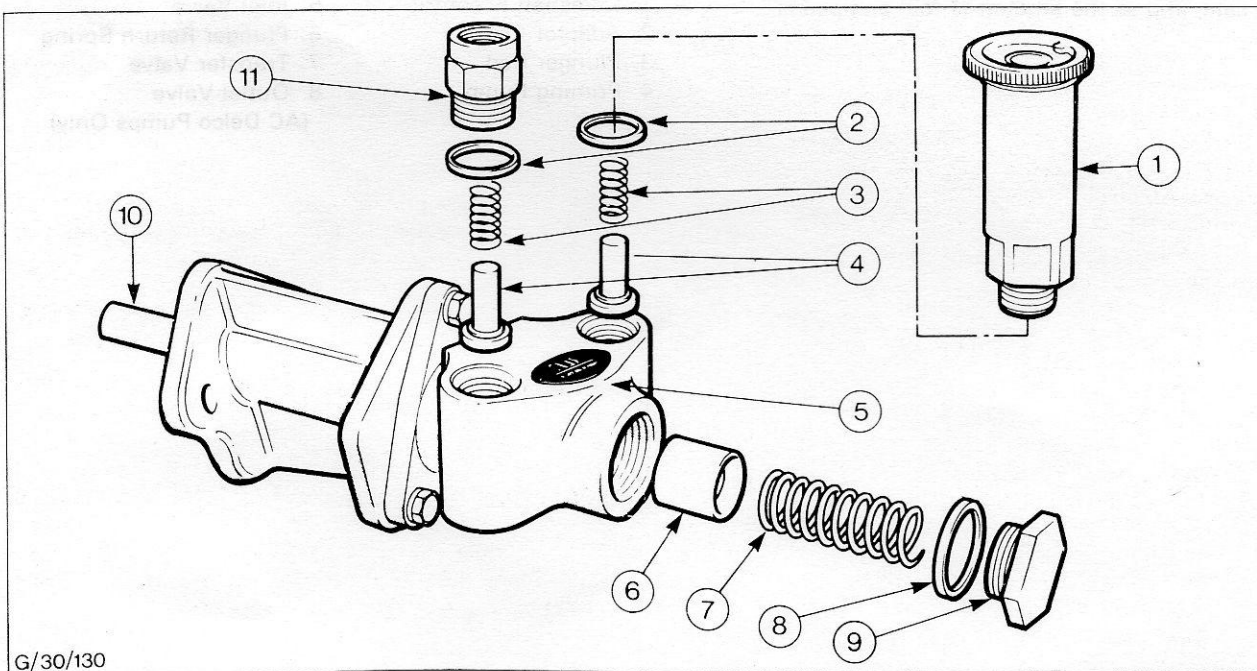

Fig. 4 - Exploded View of High Pressure Pump
**Servicing the High Pressure Fuel Lift Pump - Fig. 4**